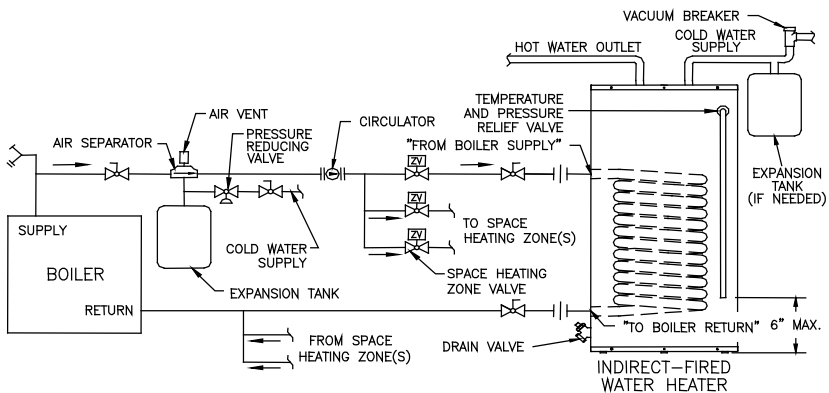

Fig. 2
1. For a space heating system that utilizes ZONE VALVES, refer to Figure 2. The indirect-fired water heater connection labeled "FROM BOILER SUPPLY" should be piped to the boiler supply piping. Mount the circulator making sure the flow arrow points toward the water heater. The use of shut-off valves and unions are recommended for future service convenience. The use of an air separator and vent is recommended to eliminate air in the system. Pipe and fittings between the boiler and indirect-fired water heater must be $\frac{3}{4}$ " diameter or larger.